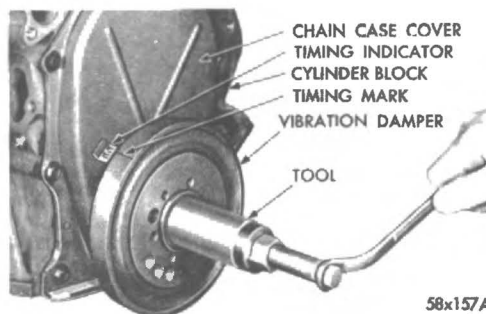

Fig. 20 Installing Vibration Damper Assembly Tool C-3688
(1) Install the hub on the crankshaft.
(2) Place the installing tool, part of puller set Tool C-3688 in position and press the damper hub on the crankshaft (Fig. 20).
(3) Slide the pulley over the shaft and attach with bolts and lockwashers.
(4) Tighten the bolts of 15 lbs / ft. torque.
(5) Install damper hub retainer washer and bolt. Tighten to 135 lbs/ft. torque.
(6) Install radiator, fan belt, hoses and close the drains.